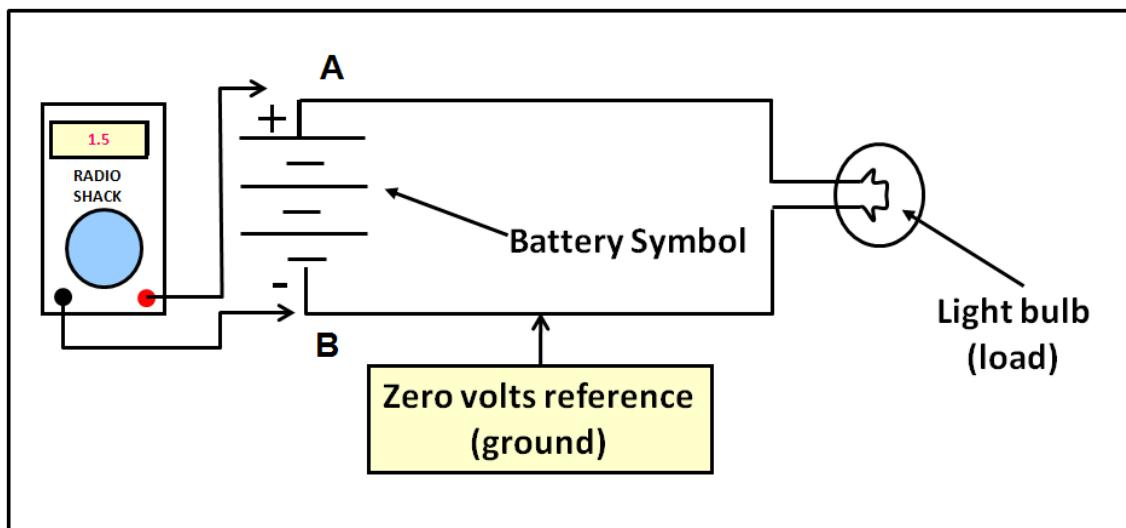

Figure 2.21 A simple battery circuit illustrates Ohm's Law.
Consider figure 2.21, below. By placing out trusty digital voltmeter across the terminals of the battery we can see that the 1.5 volts produced by the battery is also appearing across our load (the light bulb).
Here the same battery from figure 2.21. Note, you better read this quickly before the battery runs out of "juice." The current, I , flows from the positive terminal of the battery (A) through the two resistors, R_1 and R_2 , then back into the negative terminal of the battery (B). As an aside, the symbol used to represent resistors in schematic diagrams is a jagged line. There are different interpretations for why that is. Some say it represents a difficult path for the current to travel along, hence, resistance. Others (me included), are in the camp that believe it looks like the way resistance wire is strung inside space heaters and toaster. You are free to develop your own theory.